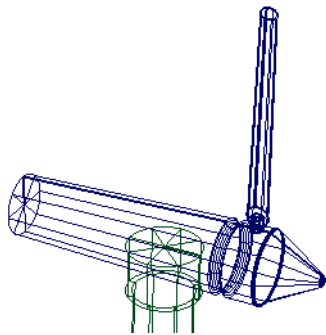

Figure 3-97 Skin surface
6. Select the second ellipse; the skin surface is created, as shown in Figure 3-97.